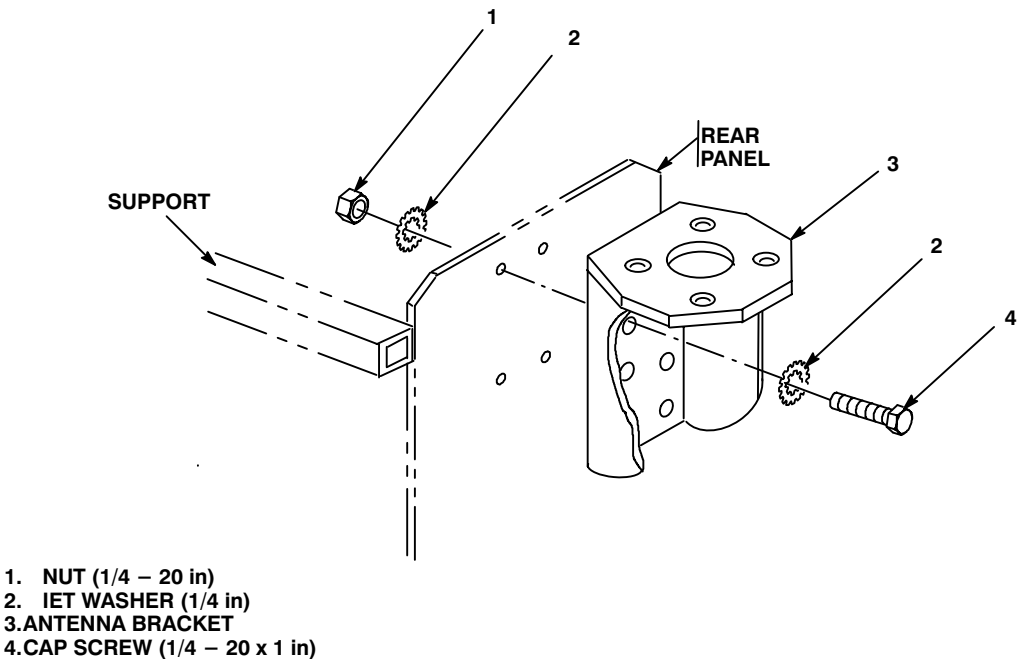

Figure 5-2 (1). Antenna Base Installation: Installing Antenna Bracket
| a. Antenna bracket (3). | Place top four holes over existing mounting holes in rear panel behind spare tire. See figure 5-2 (1). | |